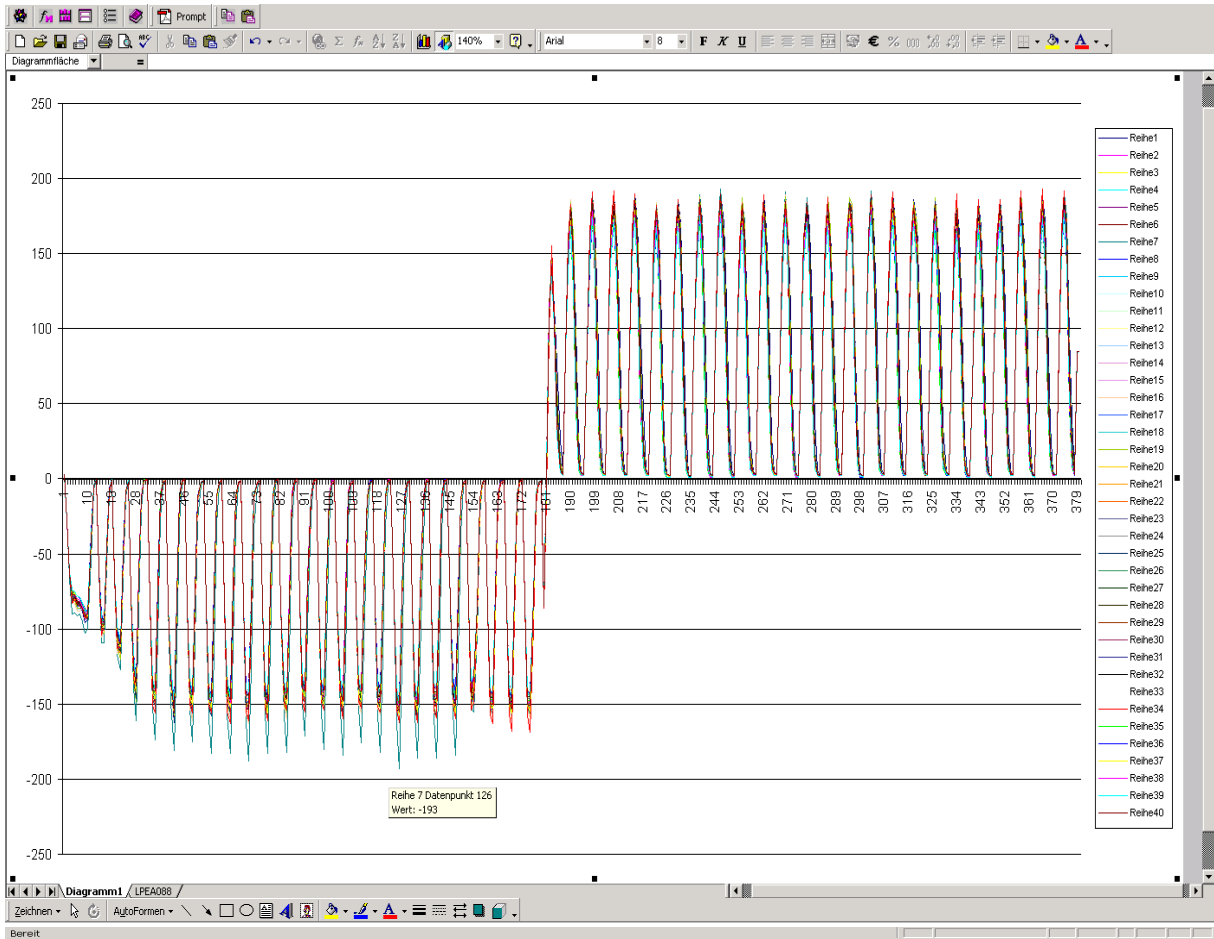
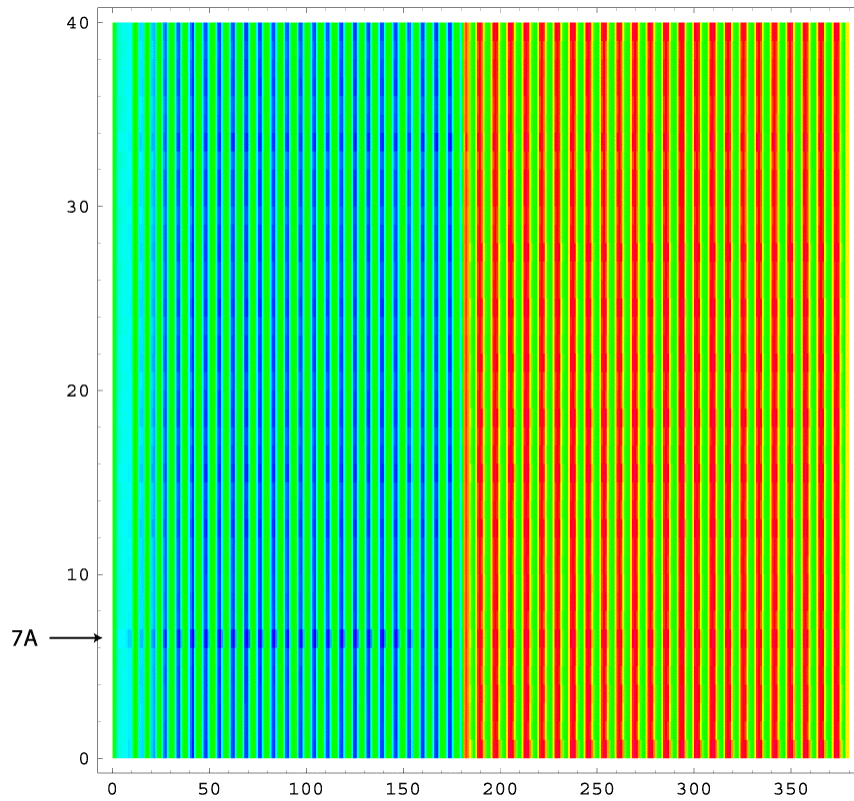

Fig.4: Line plot of data in Fig.3. Vertical axis: LPE, horizontal: record number (or time).
Fig.7: LPEA of Fig.4, plotted with Mathematica®
- 5.) The columns A to AN stand for leaves A1 to A40, time runs from top to bottom. Activate all data, go to the diagram assistant and generate a line plot. The legend gives the correct leaf numbers, if the data range starts with column A (Fig.4). The leaf position error is displayed on the vertical axis, time or record number runs to the right. Each leaf is drawn with a certain line color which may look a little cluttered, but if one points with the mouse on a certain line, one gets the line (=leaf) number. Whenever a certain leaf has higher LPE than the others, it can easily be identified.
From the figures, no unusual behaviour (leaf position error) can be detected. The minor deviation of the leaf 7A movement (Fig.4) can also be detected in the ListDensityPlot generated with Mathematica® (Fig.7). But it's not sure whether this is enough evidence to take a closer look at the leaf 7A hardware. The example should only demonstrate the most basic possibilities of the dynalog analysis with PocketLFC and the sensitivity of the method (deviations of 1/100mm can be detected in principle). The LPE of carriage B is not shown here because it is very similar. Of course, the carriages must be analysed separately.